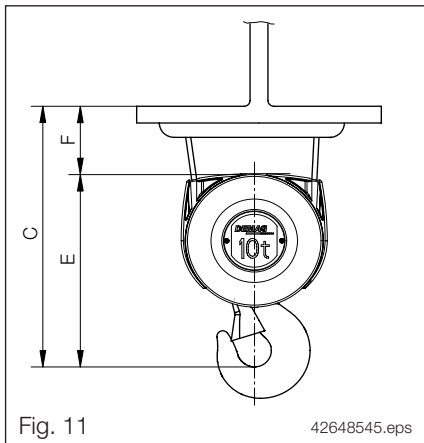

Fig. 11
**Table 1** Limit switch cut-out point for the highest hook position (fig. 11)